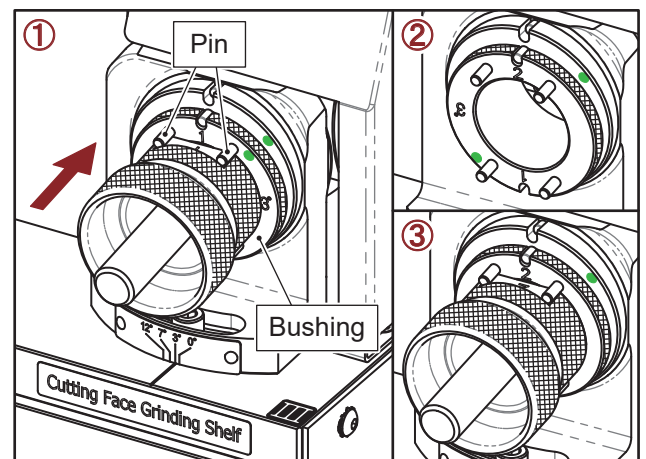

Fig. 11-2
2. 2 Flute Cutting Face Grinding (III) (Fig. 11-2)
① Insert the chuck set into the bushing on the Shelf (III), align Slot No.1 to the two pins where marked as No.1, push the chuck set gently until the grinding noise stops.
② Take the chuck set out and turn the bushing to No.2, align No.2 to the pin on the shelf, then insert it to the end.
③ Insert the chuck set into the bushing, align Slot No.2 to the two pins where marked as No.2, push the chuck set gently until the grinding noise stops.